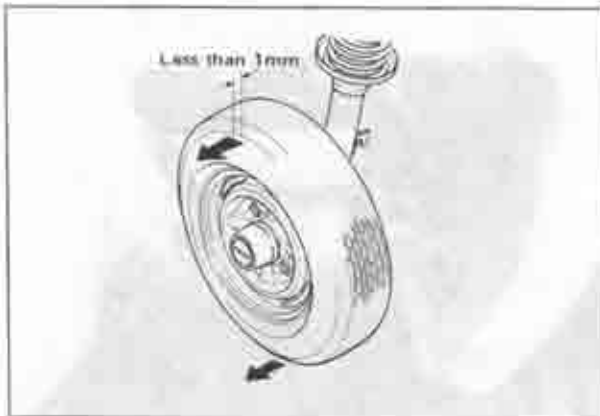

Fig. 13-18 Checking ball joint
2. To check the ball joint for wear, raise the vehicle until the wheels clear the ground. Grip the tire and shake it as shown in Fig. 13-18. If the play is more than 1.0 mm (0.04 in), replace the ball joint in its assembled form.